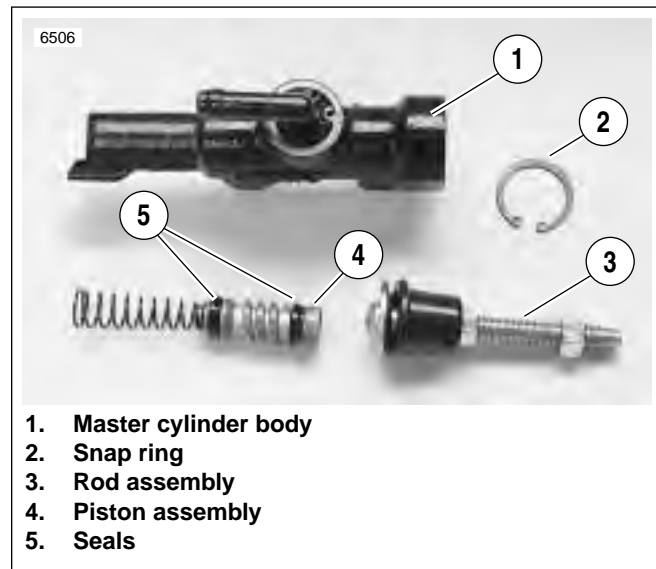

Figure 2-54. Master Cylinder Internal
1. See Figure 2-54. Slide rubber boot on rod assembly (3) away from master cylinder body (1).
2. Depress rod assembly (3) and remove internal snap ring (2). Discard snap ring.
3. Remove piston assembly (4) from master cylinder body (1).
4. Loosen adjuster locknut on the rod assembly (3).
5. Remove the clevis from the rod assembly (3).
2. See Figure 2-54. Assemble **new** piston components placing small end of spring behind primary seal of piston (4).
3. Lubricate master cylinder body (1) and piston seals (5) with **D.O.T. 4 BRAKE FLUID**.
4. Place round side of rod assembly (3) over piston. Depress piston (4) into master cylinder body (1) and secure with a **new** snap ring (2).